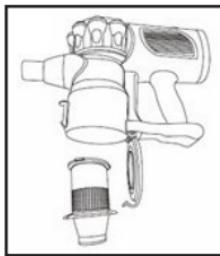

Abb. 2
- Preliminarily remove dust and garbage from the dust bin (8) as described above.
- Turn the separator (11) counterclockwise and remove it (fig. 2).
- Clean the separator (11) from dust and garbage.